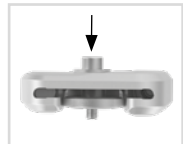

Fig. 9
- 5 Mount the cover plate by pressing it with the pressing screw and the washer (fig. 9).